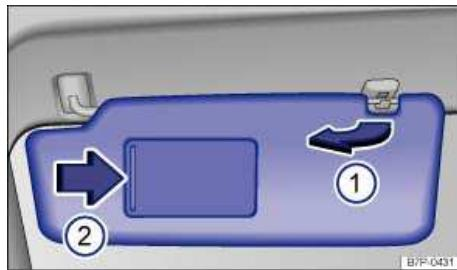

Fig. 87 Sun visor.
- Lift out of mounting and move toward the doors ⇒ fig. 87 \(1\).